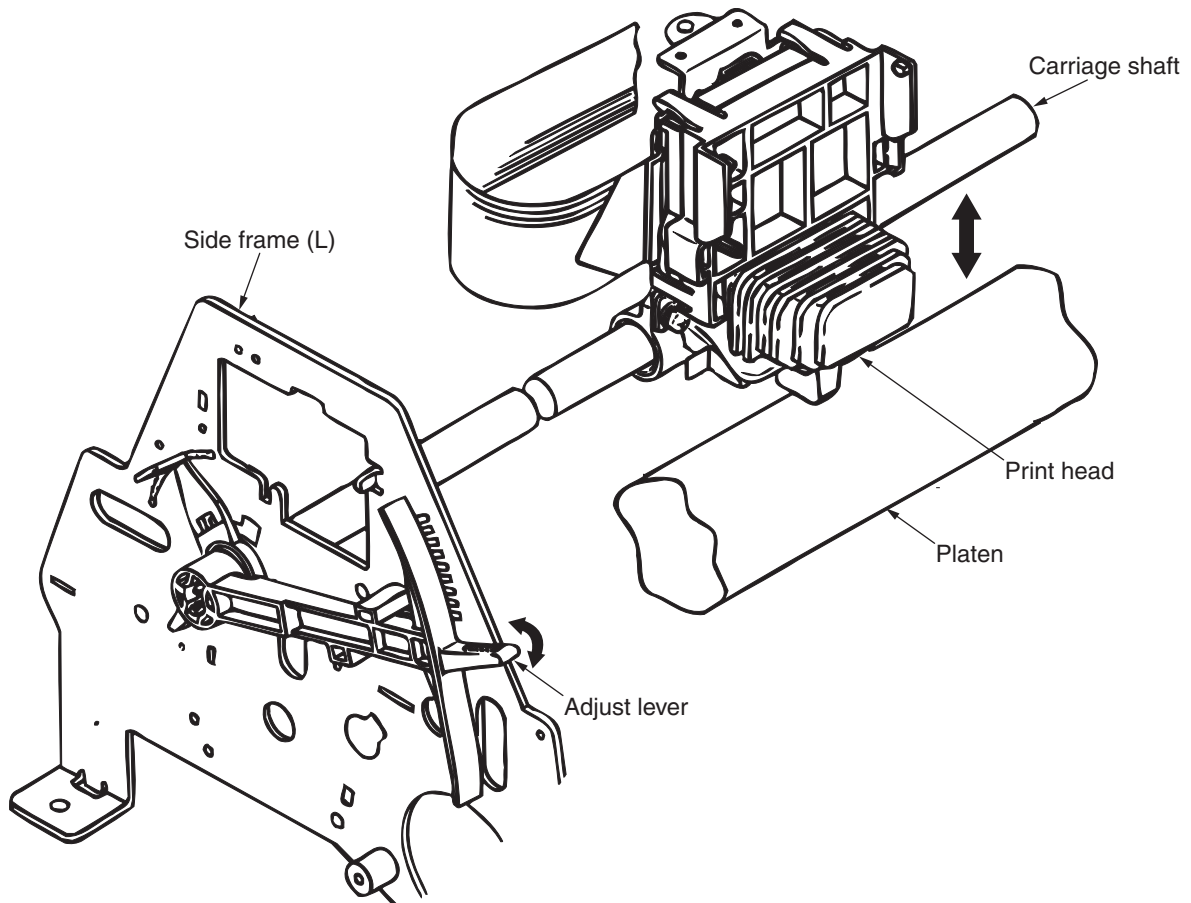

Figure 2-5
2.2.3 Head gap adjusting (See Figure 2-5.)